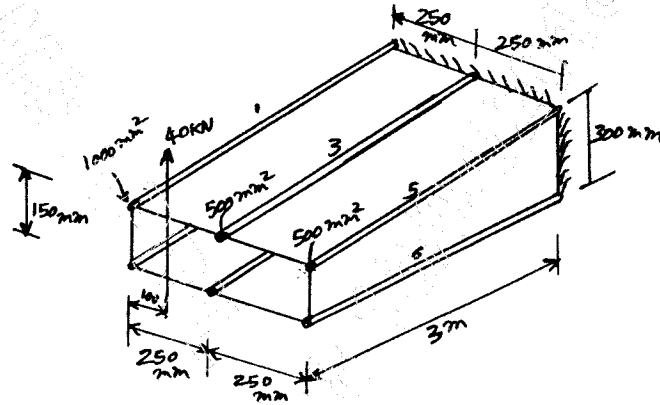

Fig Q6
- 6 Calculate the shear flow distribution and the stringer and flange loads in the beam shown in Fig Q6 at a section 1.5m from the built in end. Assume that the skin and web panels are effective in resisting shear stress only. The beam tapers symmetrically in a vertical direction about its longitudinal axis.